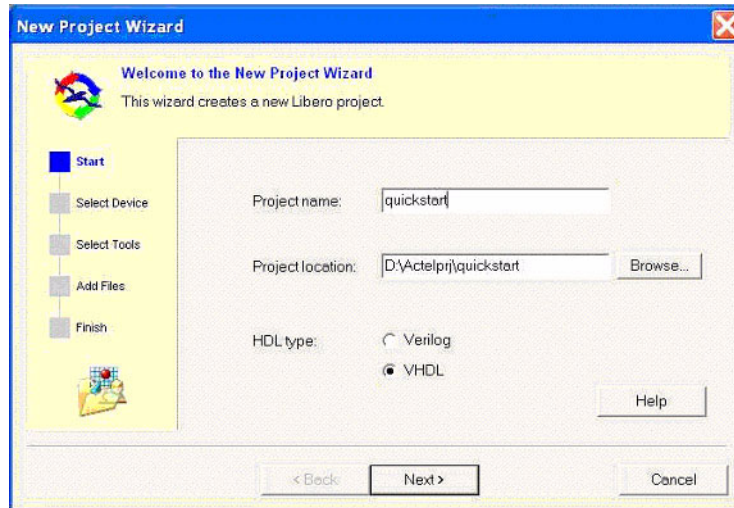

Figure 7-1. New Project Wizard in Libero IDE
2. From the **File** menu, select **New Project**. This displays the New Project Wizard, as shown in Figure 7-1.